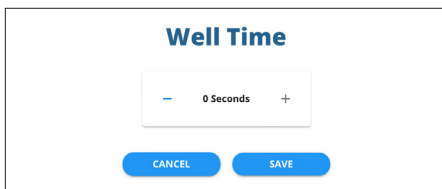

Fig. 36—Set the desired amount of time that the electrodes will be immersed in a well before taking measurements.
10. Setup the well time by selecting the *Well Time* menu. The well time is the number of seconds the electrodes are held immersed in a well before measurements are taken. The *Well Time* popup appears (Fig. 36). Enter the desired time in seconds and press *Save*. The updated value displays in the *Current State* area of the window.